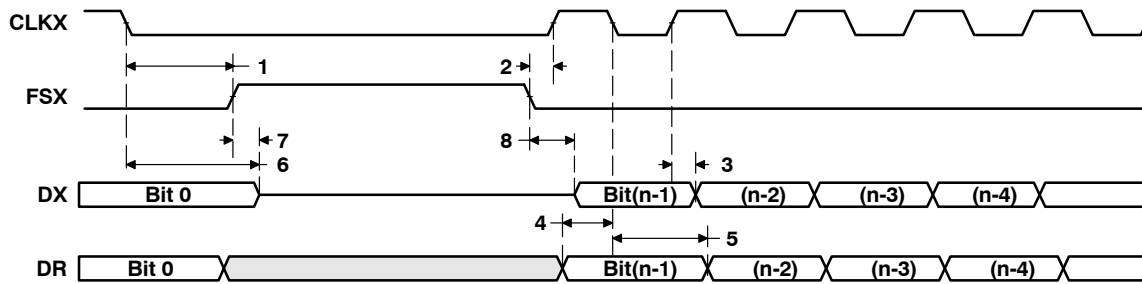

Figure 35. McBSP Timing as SPI Master or Slave: CLKSTP = 10b, CLKXP = 0
**timing requirements for McBSP as SPI master or slave: CLKSTP = 10b, CLKXP = 0†‡ (see Figure 35)**
**switching characteristics over recommended operating conditions for McBSP as SPI master or slave: CLKSTP = 10b, CLKXP = 0†‡ (see Figure 35)**